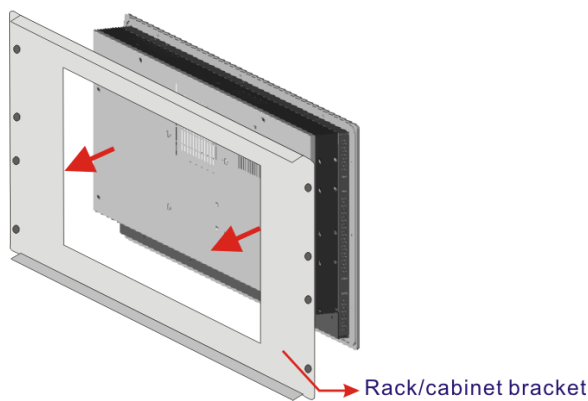

Figure 3-33: The Rack/Cabinet Bracket
Step 1: Slide the rear chassis of the PPC-3708A-N26 panel PC through the rack/cabinet bracket until the aluminum frame is flush against the front of the bracket (Figure 3-33).